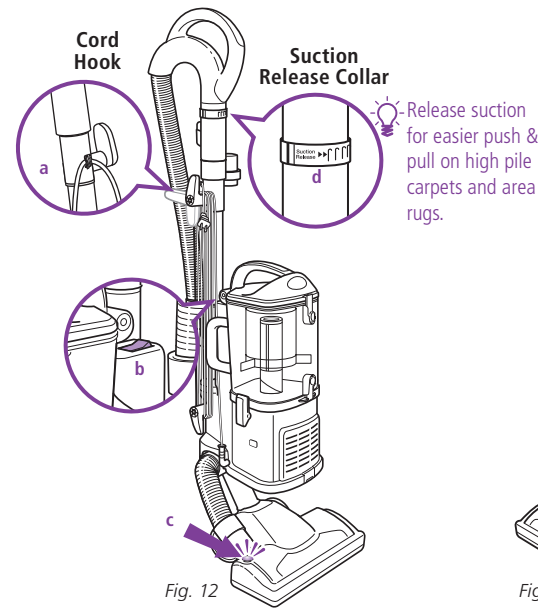

Fig. 12
- 2 Secure the power cord in the cord hook (a). (Fig. 12)
- 3 Press the On/Off switch (b) to the "I" position to vacuum bare floors (straight suction only) or to the "II" position to engage the motorized floor brush (for vacuuming carpets and rugs). (Fig. 12)
⚠ **IMPORTANT:** The motorized brush indicator light (c) will illuminate green when motorized floor brush is on, or red if there is a blockage or jam. (Fig. 12) This feature is designed to protect your Lifetime Belt that powers your motorized floor brush. See Checking for Blockages on page 15.
- 5 Due to the huge suction power of this vacuum, it may become necessary at times to adjust the suction release (d) on the handle. (Fig. 12) If the vacuum seems difficult to push or pull or if it is lifting up area rugs, adjust the suction release by rotating the collar 90° counterclockwise to open the valve. Rotate the collar clockwise to close the valve when you need high suction and for vacuuming floors.